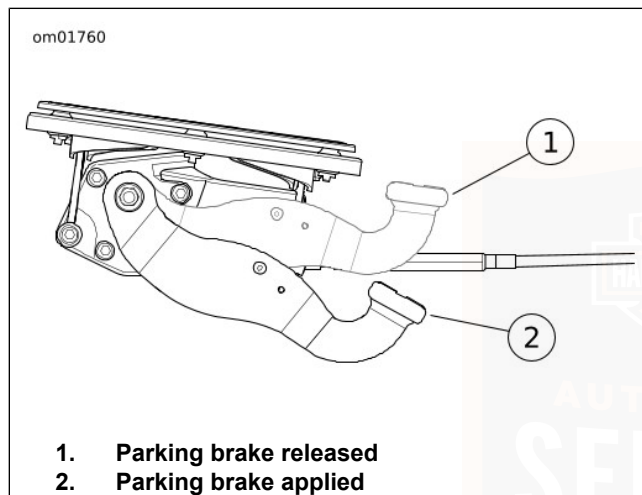

Figure 23. Parking Brake
See Figure 23. The parking brake pedal is on the left side of vehicle. The parking brake mechanically engages brakes for both rear wheels preventing the vehicle from rolling when parked. The parking brake indicator lamp turns on when the parking brake is applied.
4. See Figure 23. With the left foot, firmly push down the parking brake pedal until it cannot be pushed any further.
2. See Figure 23. With the left foot, firmly press the parking brake pedal and release. The parking brake returns to the released position.